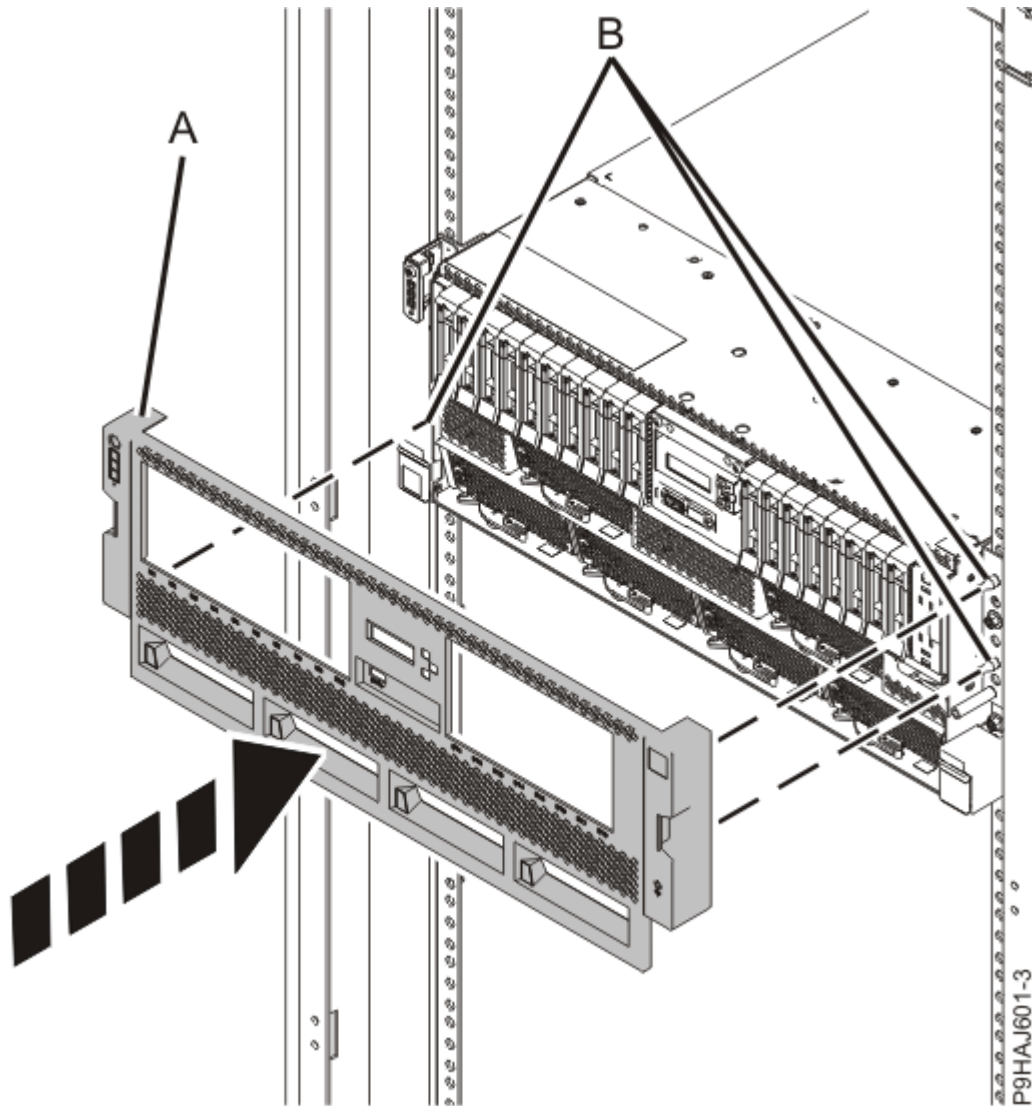

*Figure 28. Placing the system into the operating position*
3. For a rack-mounted system, unlock the blue rail safety latches (**A**) as shown in Figure 28 on page 30 by pushing them inward.